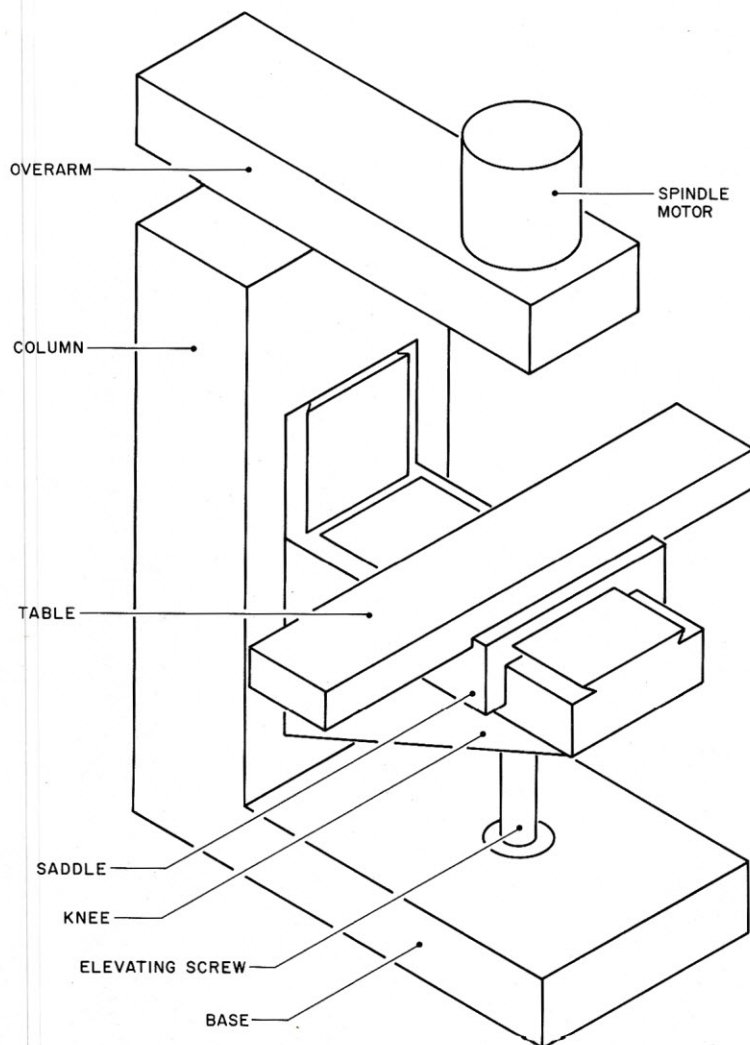

Figure 7. Basic vertical mill components.
**Vertical Milling Machine.** A milling machine in which the axis of the spindle is perpendicular to the table. (Figure 7.)